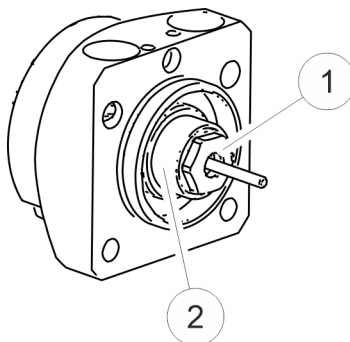

Fig. 32: Removing the needle pack
8. ➡ Loosen the packing screw ( Fig. 32/1) located in the head section and pull out the complete needle pack ( Fig. 32/2).